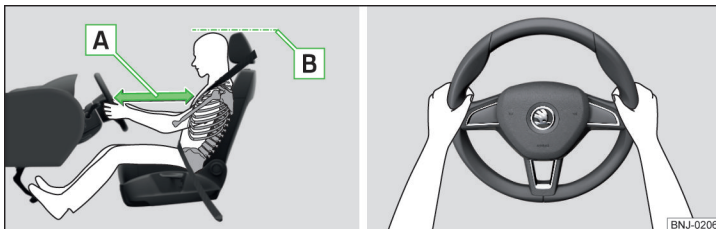

Fig. 2 Correct seated position for the driver/correct steering wheel position
- ✓ Adjust the steering wheel so that the distance between the steering wheel and your chest is at least 25 cm » Fig. 2 - A.
- ✓ Adjust the headrest so that the top edge of the headrest is, where possible, at the same level as the upper part of your head (not for seats with integrated headrests) » Fig. 2 - B.
- When driving, hold the steering wheel with both hands firmly on the outer edge in the "9 o'clock" and "3 o'clock" position » Fig. 2. Never hold the steering wheel in the "12 o'clock" position or in any other way (e.g. in the middle, inner edge of the steering wheel or similar). Otherwise, you could sustain serious injury to the arms, hands and head if the airbag is activated.
- ✓ Adjust the head restraint so that the top edge of the head restraint is at the same level as the upper part of your head » Fig. 2 on page 11 -  (not for seats with integrated headrest).
- ✓ Adjust the head restraint such that the top edge of the head restraint is, where possible, at the same level as the upper part of the head » Fig. 2 on page 11 - .